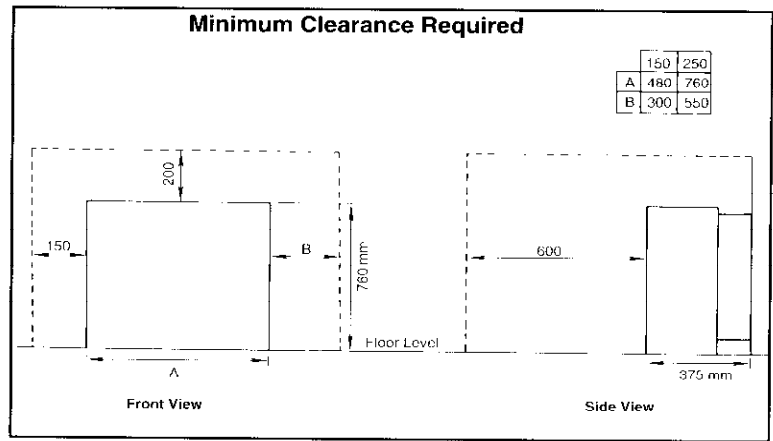

Figure 2
- a) Fig. 2 shows the minimum clearances required to gain access to and allow possible removal of components. These clearances are also necessary for the normal operation of the heater.